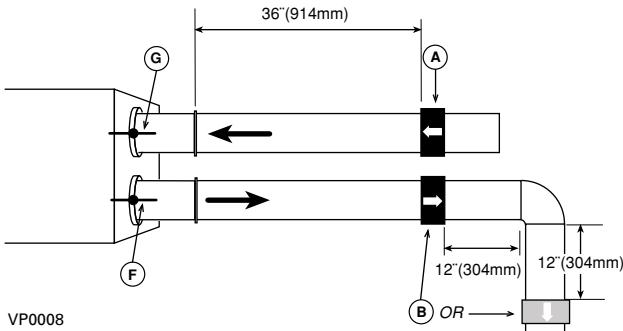

Figure 5
Seal all the unit ductwork with tape. Close all windows and doors. Turn off all exhaust devices such as: range hoods, dryers and bathroom fans. Make sure balancing dampers are fully opened (F and G in Figure 5 below).
Choose appropriate locations for the 2 flow collars according to Figure 5:
3. Connect tubing from gauge to flow collar in exhaust air stream at location A (Figure 5 on page 9).
4. Move tubing to the other side of the unit (location B in Figure 5 on page 9) and note reading. Adjust the fresh air balancing damper F until the reading at B is approximately the same as the reading at A.